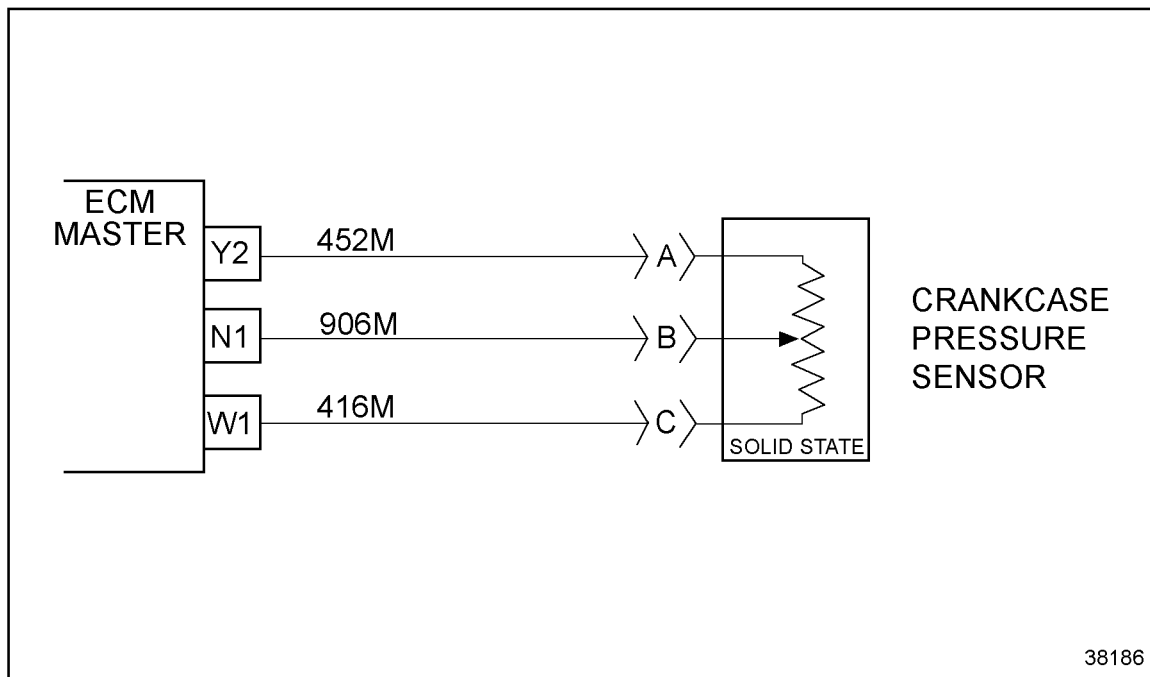

Figure 81-2 Crankcase Pressure Sensor
2. Insert a jumper harness between the pins A and B of the CCPS connector. Measure resistance between cavity Y2 and N1. See Figure 81-2.